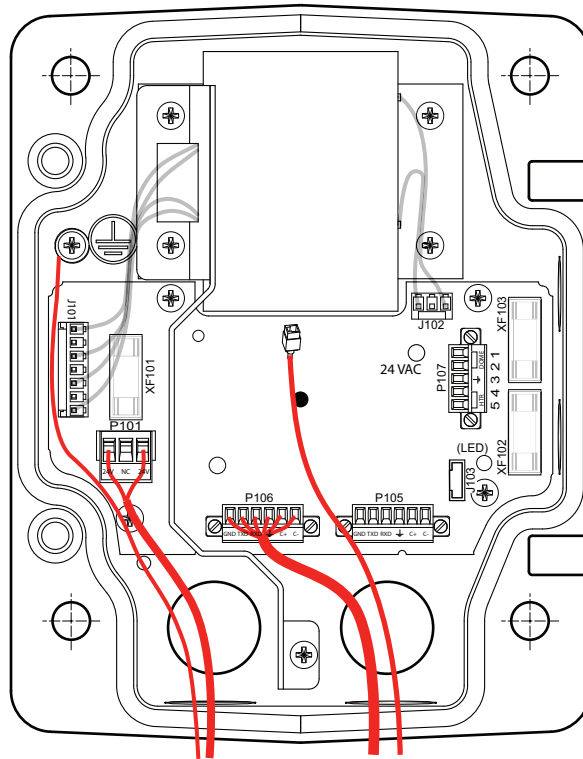

Figure 2.2 Pendant Arm Power Supply Box
- Cut and trim all wires with sufficient slack to reach their connector terminals in the box, but not so long as to be pinched by or to obstruct closing the Pendant Arm. See *Figure 2.2, Page 17*, above, for the connector locations.